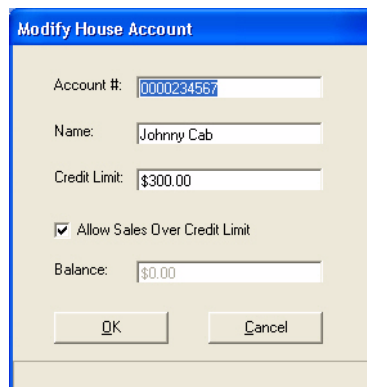

Figure 17-2 Modify House Accounts Window
- Use the **Add**, **Modify** or **Remove** buttons to add a new account, modify an existing account, or delete an account. See Figure 17-2 below.